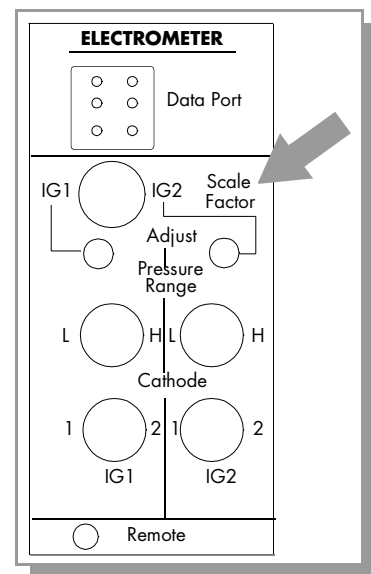

Figure 4-23 Electrometer Module Showing Scale Factor Switch.
1. Be sure the scale factor switch on the electrometer module is in its center position (See Figure 4-23.), or the calibration data in display line 1 will conflict with the display of setpoints 1 and 2.